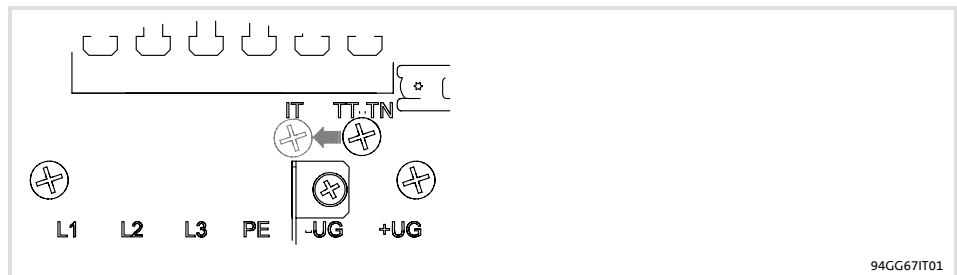

Fig. 4.6-5
1. Find the screw over terminals X100 (+UG/-UG) in the position "TT-TN" (📖 Fig. 4.6-5).